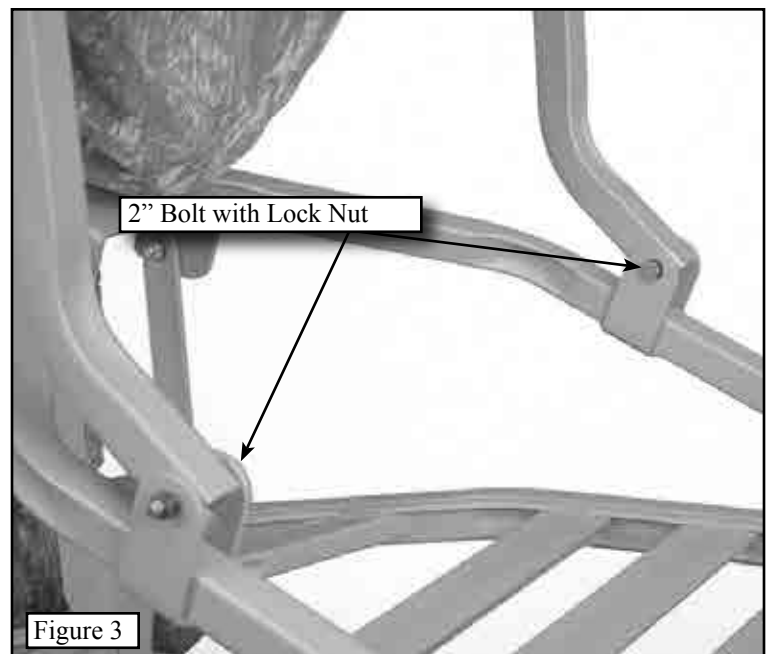

Figure 3
Step 3. Position the Seat Support Tube as shown in **Figure 3**. Line up the holes and secure with two 2" bolts and lock nuts. Run bolts from the inside out. If a squeak develops, back off bolts by 1/2 turn.